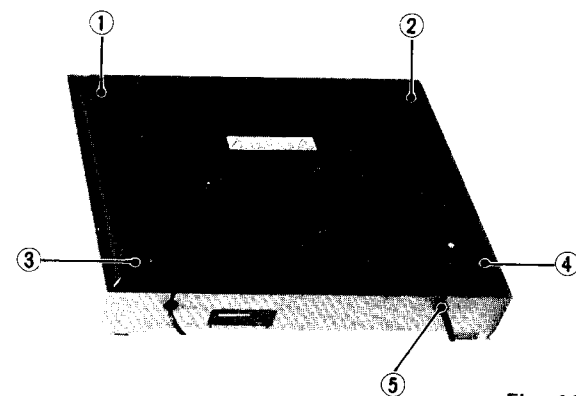

Fig. 12
1. Remove feet ① ~ ④ shown in Fig. 12.
2. Remove the cord stopper ⑤ of the signal cord as shown in Fig. 12.